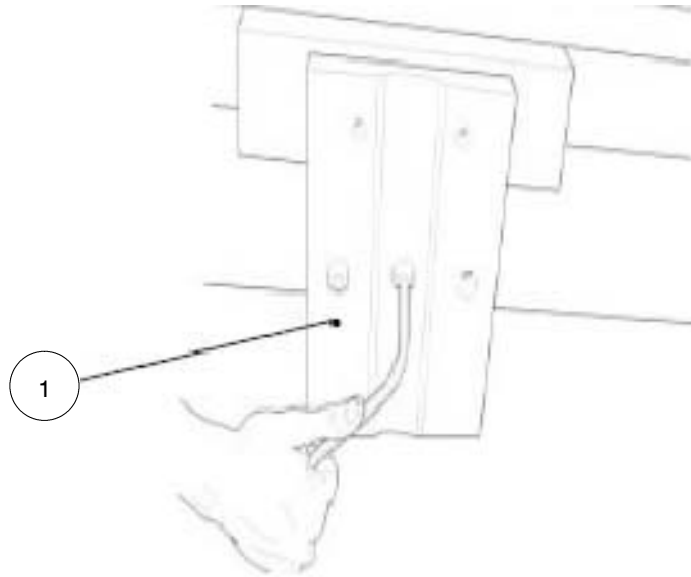

Fig. 3-3 Attaching external carriage plates
7. See Figure 3-3. Attach the external carriage plates (1) on to the unit using two bolts per plate.